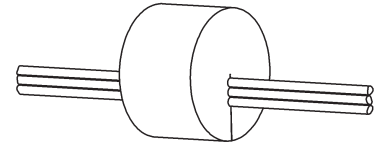

Fig. 9:
- **Conduit** – Included with the VOC sensor is a foam plug to seal the ½ inch (13mm) EMT. Place the wires into the plug as shown in Fig. 9 and then insert the plug into the conduit sealing the conduit.